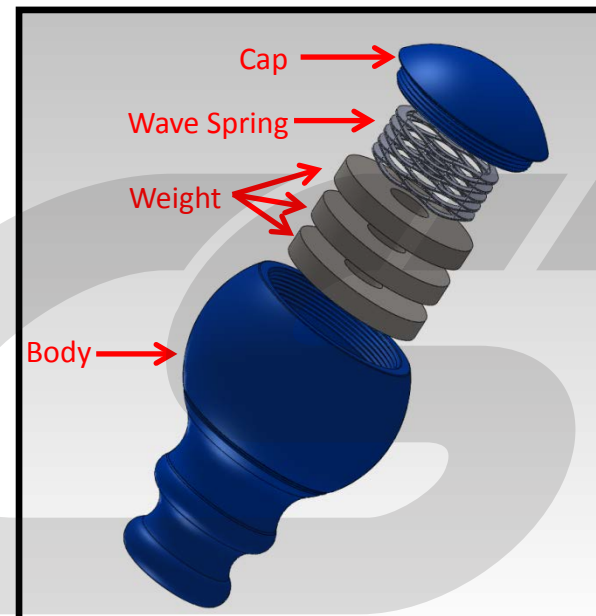

Figure 1c
e) Install the spring on top of the weight. **Figure 1c** shows the correct way to install 3 weights as an example.